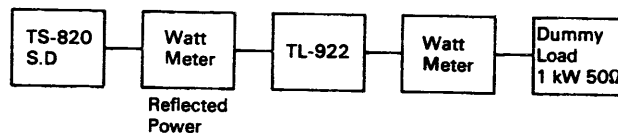

Fig. 15 Equipment Connection
- a. Connect the exciter to the linear amplifier according to Fig. 15.
- a. Connect equipment according to Fig. 15.
- Interconnect according to **Fig. 15**.